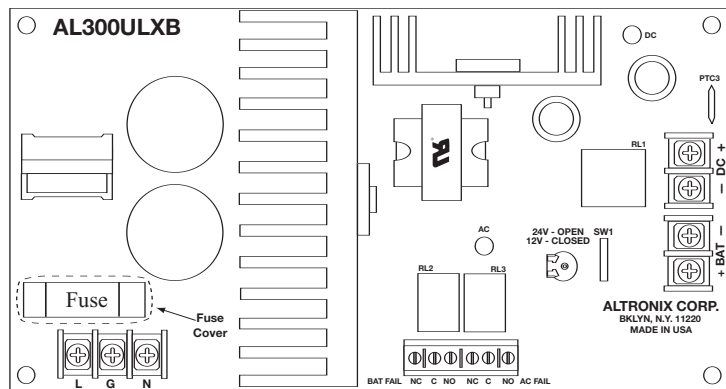

Fig. 2
- Connect AC power (115VAC 50/60Hz) to terminals marked [L, G, N] (*Fig. 2*). Use 18 AWG or larger for all power connections (Battery, DC output, AC input). Use 22 AWG to 18 AWG for power limited circuits (AC Fail/Low Battery reporting).
- Connect devices to be powered to terminals marked [- DC +] (*Fig. 2*).
6. For Access Control applications, batteries are optional. When batteries are not used a loss of AC will result in the loss of output voltage. When the use of stand-by batteries is desired, they must be lead acid or gel type. Connect battery to terminals marked [+ BAT -] (Fig. 2). Use two (2) 12VDC batteries connected in series for 24VDC operation (battery lead included).
7. Connect appropriate signaling notification devices to AC FAIL & BAT FAIL (Fig. 2) supervisory relay outputs.